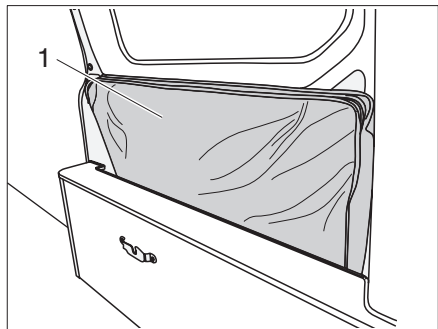

Fig. 51 Table stowed
- ▶ Stow the table (Fig. 51,1) in the storage bag.